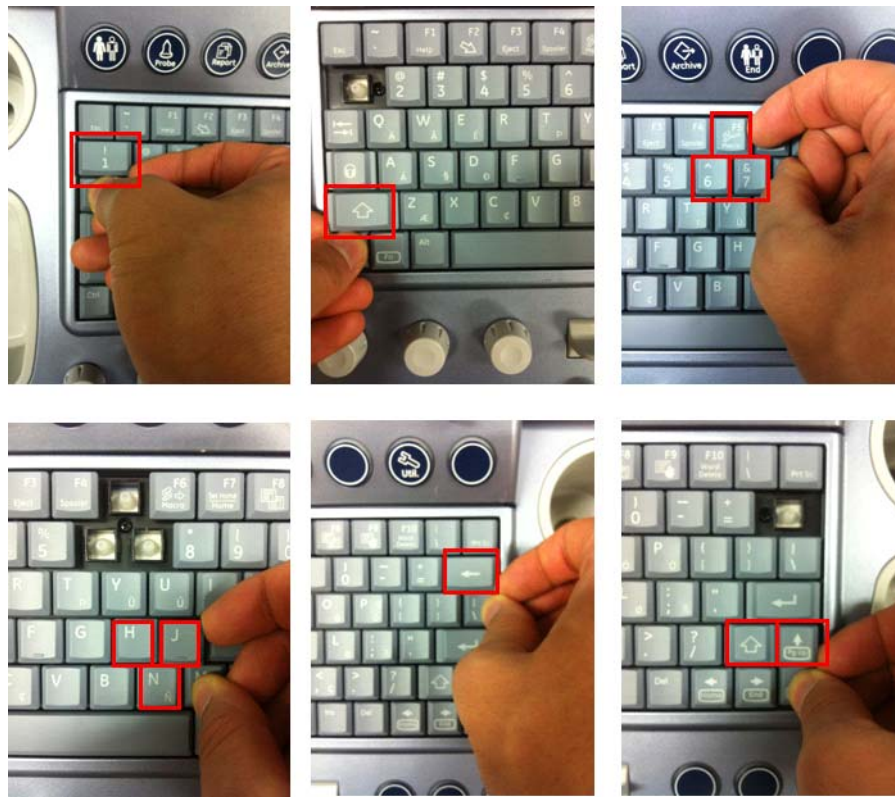

Figure 8-139 Removing key : '1', 'Left Shift', 'F5', '6', '7', 'H', 'J', 'N', 'Back space', 'Right Shift', 'Pg Up
- 1.) Remove '1' Key, 'Left Shift' Key, 'F5' Key, '6' Key, '7' Key, 'H' Key, 'J' Key, 'N' Key, 'Back space' Key, 'Right Shift' Key and 'Pg Up' Key by using fingertips. Refer to Figure 8-139 below.